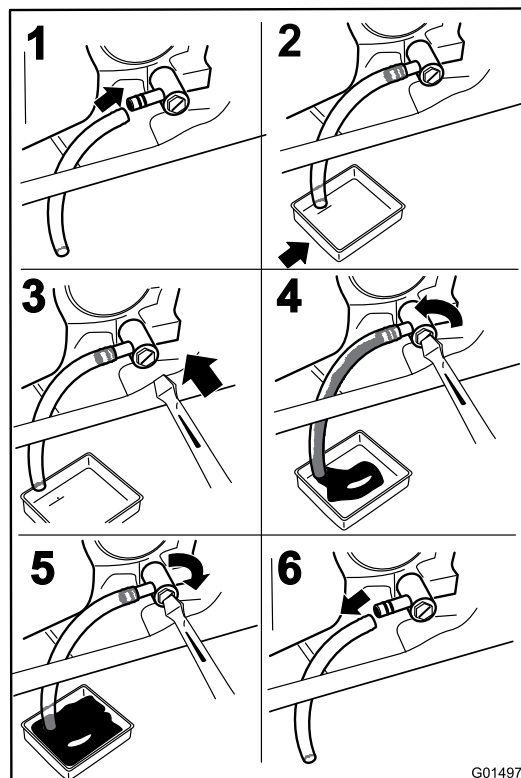

Figure 39
3. Stop the engine, remove the key, and wait for all moving parts to stop before leaving the operating position (Figure 39).